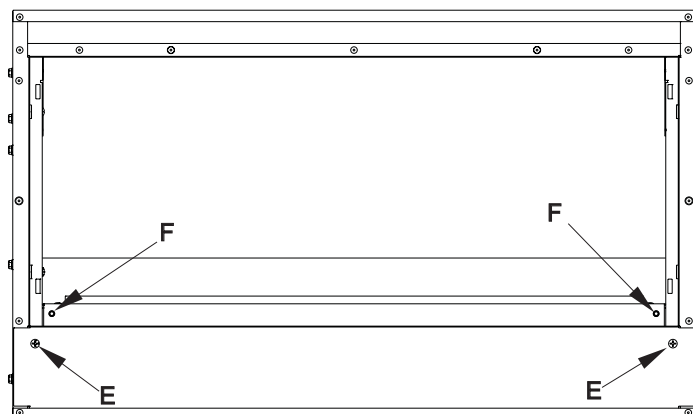

Figure 24
- Remove screws at "E". Remove the bottom panel by lifting and set aside in a safe location. **See Figure 24.**
- Remove screws at "F". Remove burner assembly and set aside in a safe location. **See Figure 24.**
16. Place burner assembly inside fireplace and replace screws removed earlier ("F" in **Figure 24**).
23. Replace bottom panel and re-insert two black, truss-head screws ("E" in **Figure 24**).